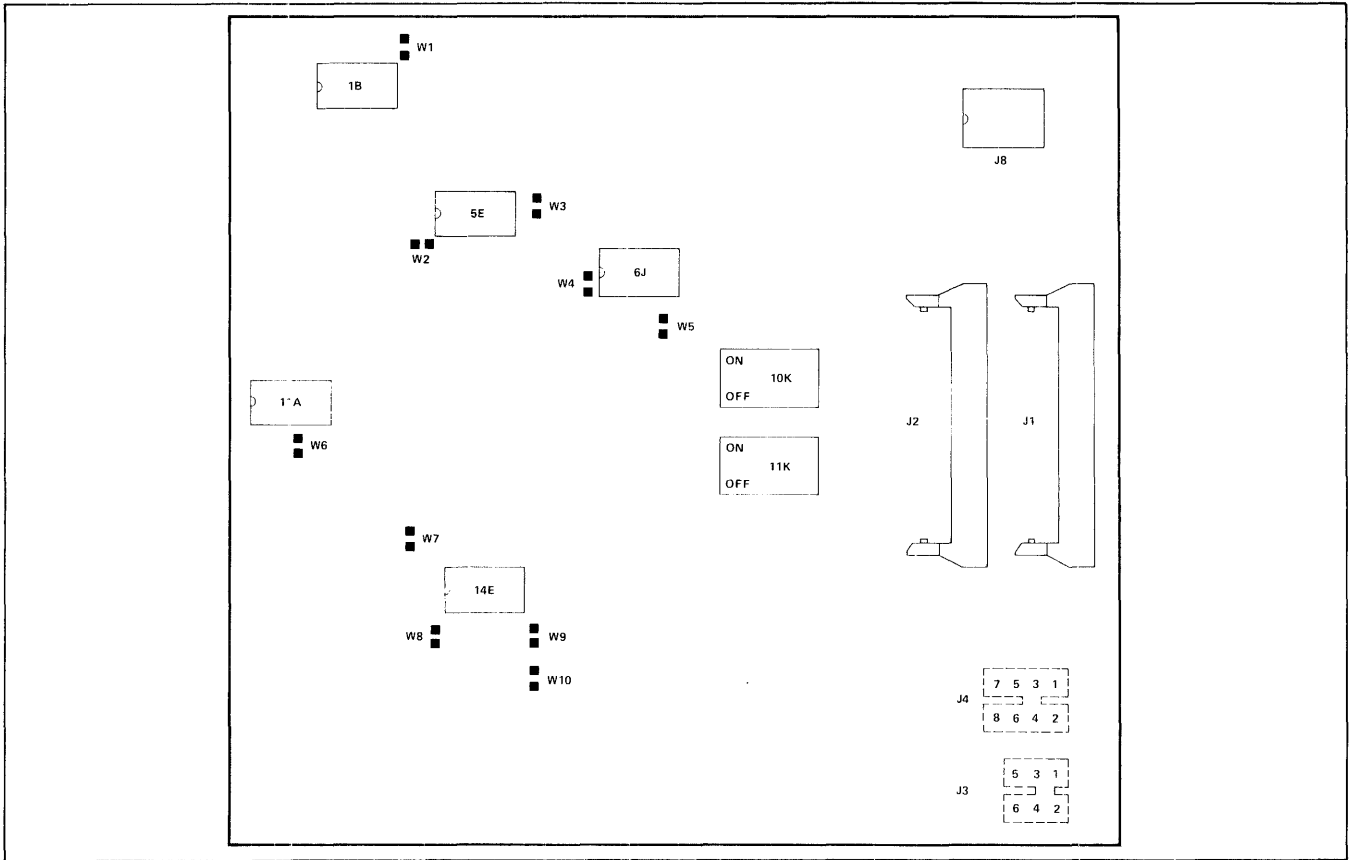

Figure 4-1. Jumper and DIP Switch Locations for Assembly P/N 200113
4.3 Switch Settings. The drive address, write protect parameters, and sector size are all switch selectable. The switches are located on the main PCB. Referring to Table 4-1, set the switches according to the desired operating conditions for the applicable Model Drive. See Figures 4-1, 4-2 and 4-5 for the locations of the applicable DIP switches.
4.4 Jumper Settings. Jumpers are black conductive tabs that can be inserted on board pins to complete a particular circuit. Although most of these are used only at the factory to facilitate testing, some have user selectable functions. It is important that all jumpers be installed in their proper locations. See Figures 4-1 to 4-6.